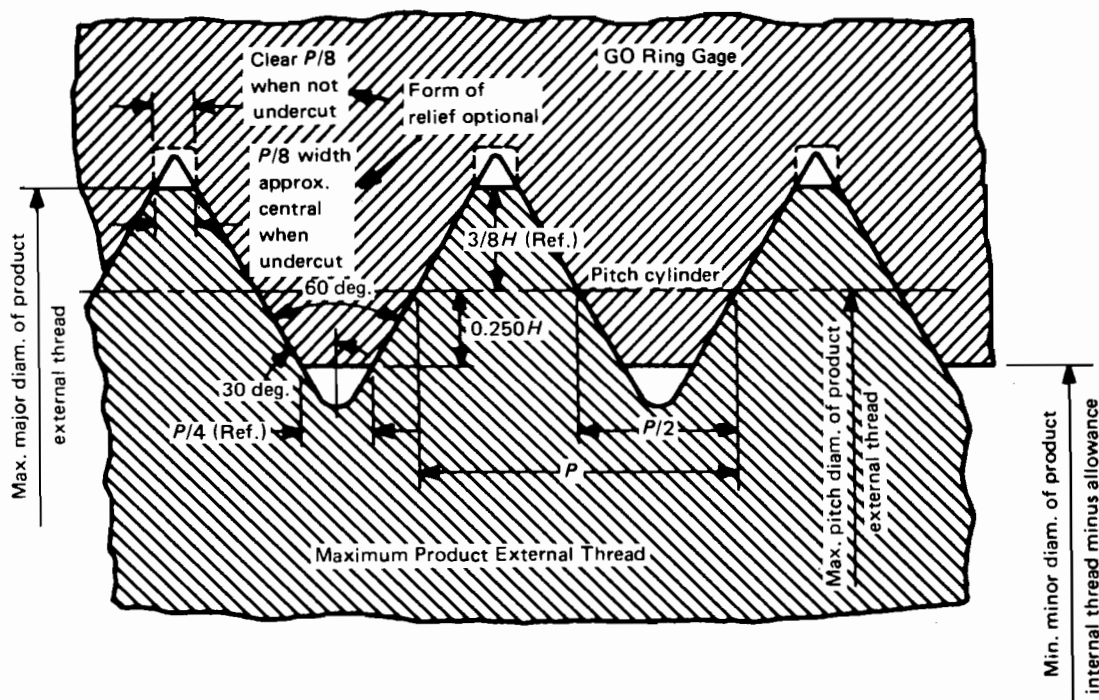

FIG. 18 MAXIMUM-MATERIAL GO FUNCTIONAL LIMIT
5.1.4 Thread Form. The specifications for thread form are summarized in Table 4 and Fig. 18.